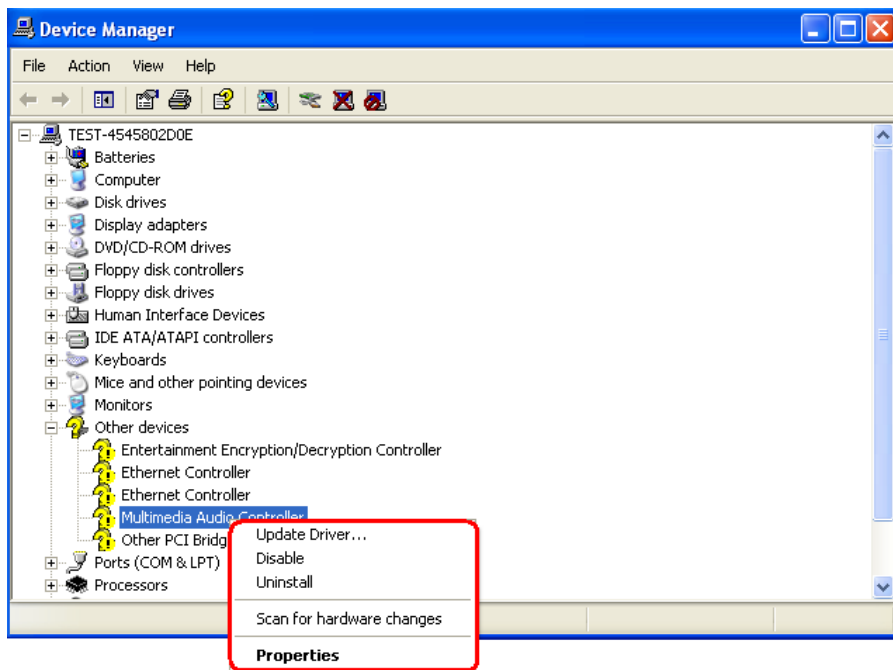

Figure 7-17: Update Audio Driver Selection
Step 3: The small window in **Figure 7-17** appears.
Step 4: Select the **UPDATE DRIVER** option in the small window shown in **Figure 7-17**.